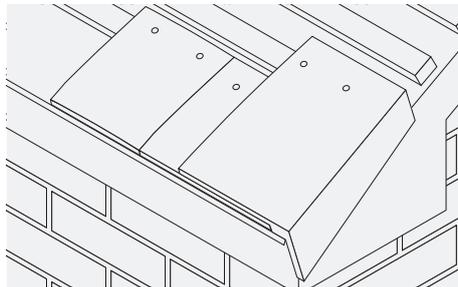

Fig. 7 - Eaves course
- 4 Fix under-eaves course using either a normal eaves tile or cloak tile cut down to size (Fig. 7).